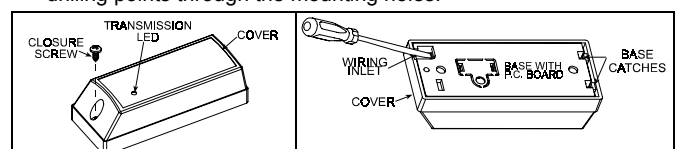
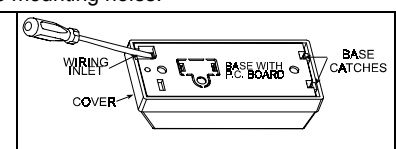

Figure 4. Removing the Case Closure Screw
Figure 5. Separating the Cover from the Base
D. Remove the case closure screw (Figure 4), then remove the unit's cover (Figure 5).